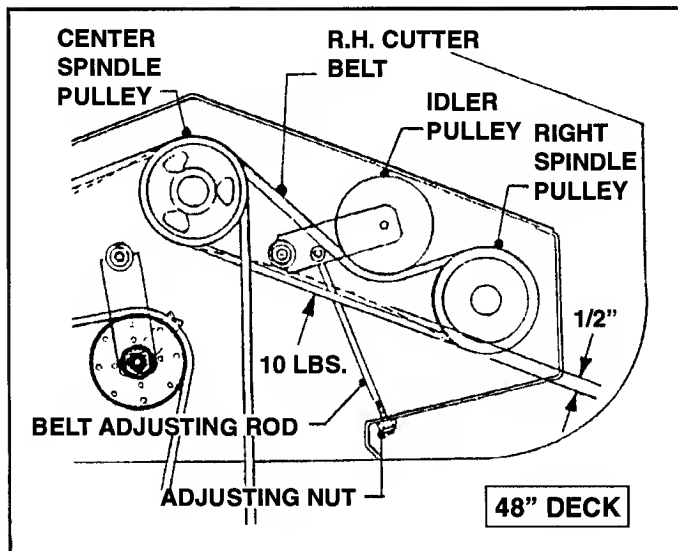

FIGURE 5.33
The 1991 thru 1993 PRO DECKS (48", 52" & 61") can be readily identified by taking note of the position of the Blade/Blade Idler - it is located in front of the Belt. See Figure 5.33, Page 5.5.
2. If Belt needs adjusting, tighten or loosen the nut on the Belt Adjusting Rod. See Figure 5.33.